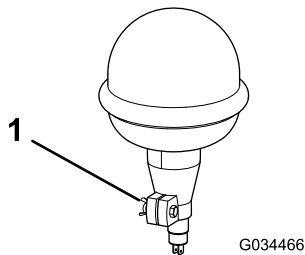

Figure 11
4. Loosen the wing nut on the beacon (Figure 11).